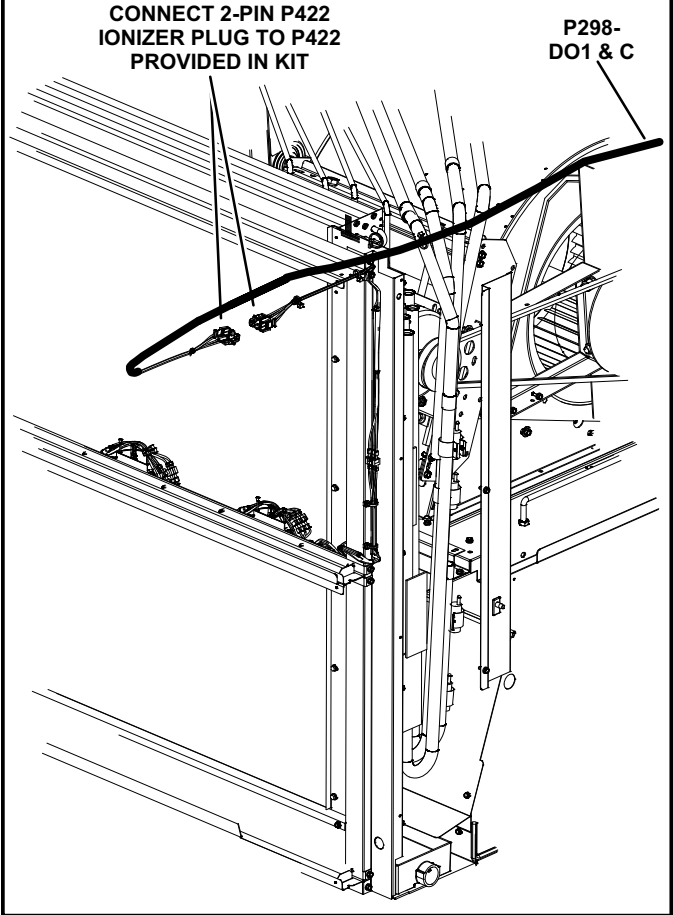

FIGURE 11
- 4- Connect the 2-pin P422 plug (routed to the filter section) to the ionizer P422. See figure 11.
- 4- Connect the 2-pin P422 plug (routed to the filter section) to the ionizer P422 plug. See figure 11.